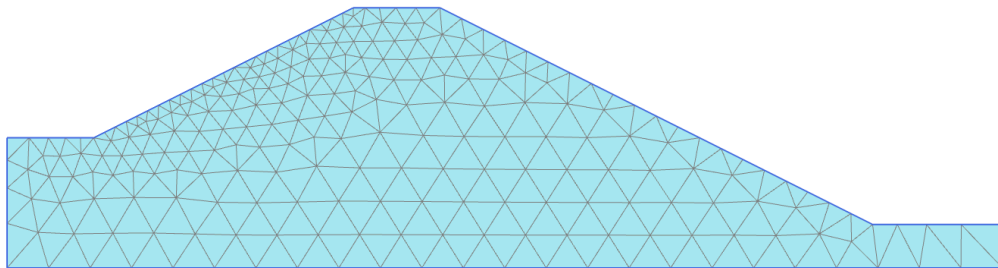

Figure 12-3: The generated mesh
- 5 Click the **View mesh** button  to view the mesh as shown in Figure 12-3 \(p. 197\).